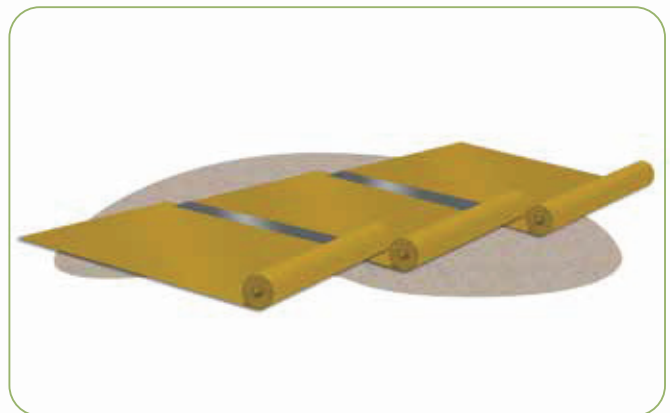

Figure 1. Radon BlockTM Overlapping Roll-out Method
- 1.2** Unroll Radon BlockTM running the longest dimension parallel with the direction of the pour and pull open all folds to full width (figure 1).